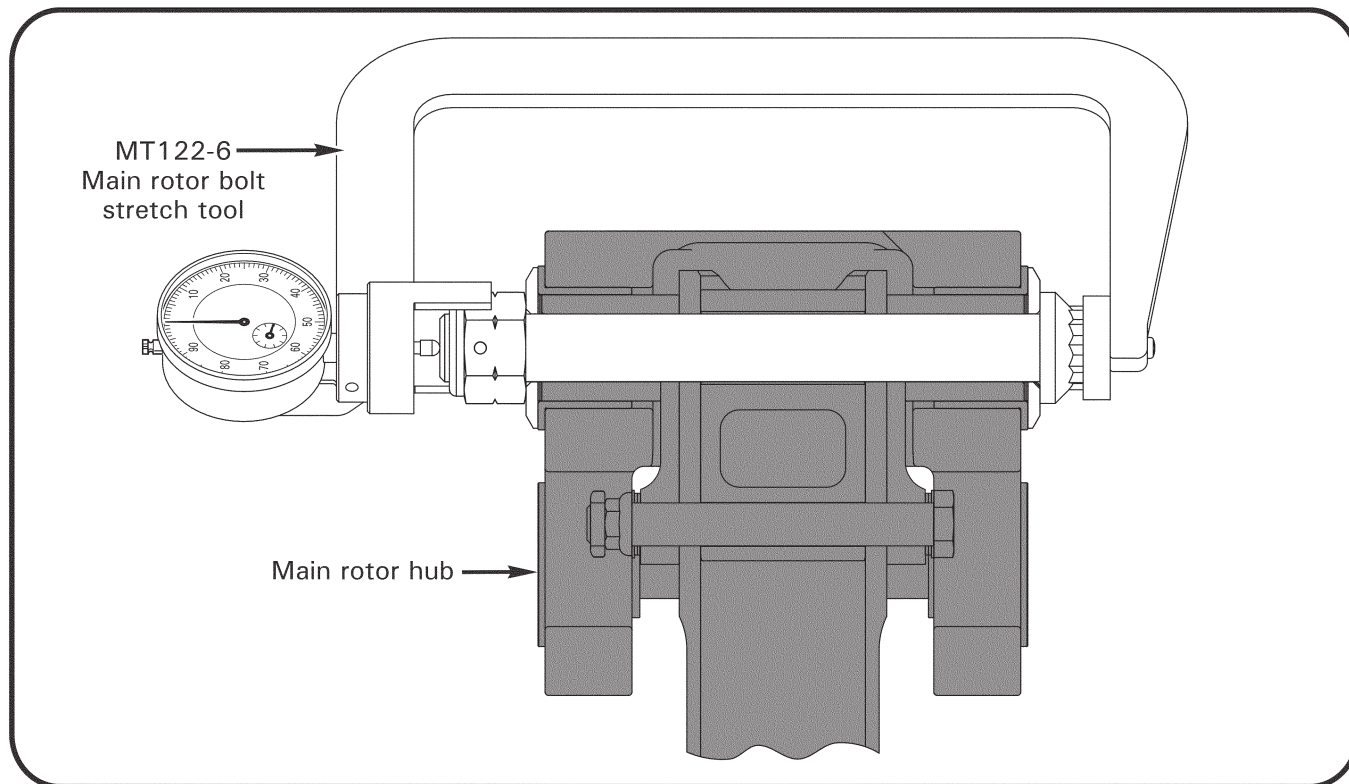

FIGURE 62-2 MEASURING BOLT STRETCH
8. Install MT122-6 main rotor bolt stretch tool on hinge bolt per Figure 62-2. Zero dial indicator by rotating dial face. Lock dial and remove tool.
5. Position MT122-6 main rotor bolt stretch tool on teeter bolt per Figure 62-2. Zero and lock dial indicator. Remove tool.